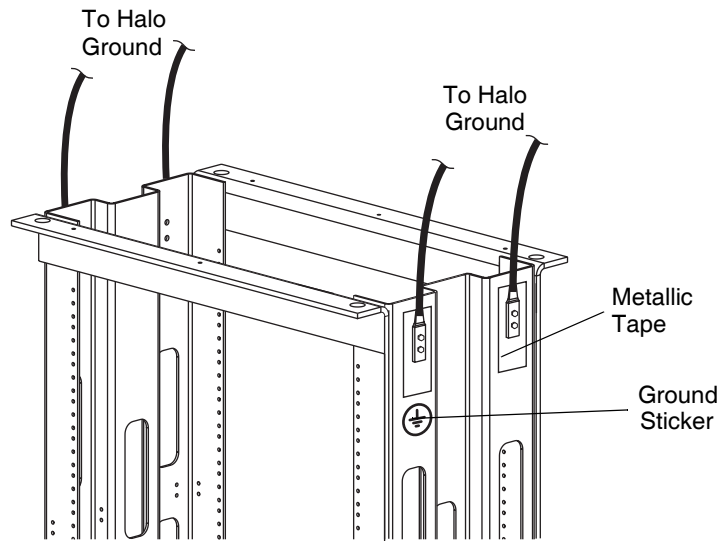

Figure 3-4 Frame to Halo Ground Connection Example
6.	Connect PAF frame to halo grounding system at frame top (four locations) using green 6 AWG cable as shown in Figure 3-4
8.	Affix supplied ground sticker directly beneath one utilized frame grounding points shown in Figure 3-4